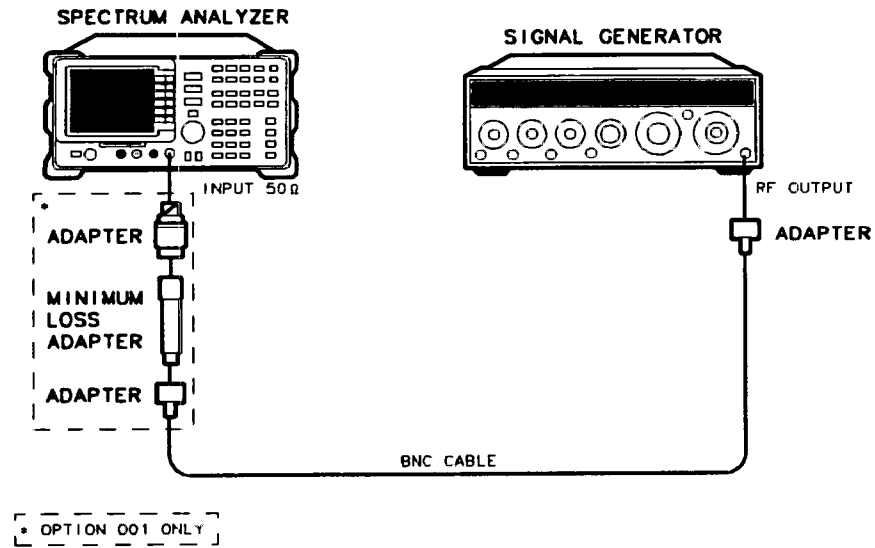

Figure 3-8. Noise Sideband Test Setup
2. Connect the equipment as shown in Figure 3-8. If your analyzer has Option 001 (75Ω RF input), connect the 75Ω side of the minimum loss adapter to the RF input of the analyzer, and connect the 50Ω cable from the signal generator to the 50Ω side of the minimum loss adapter.